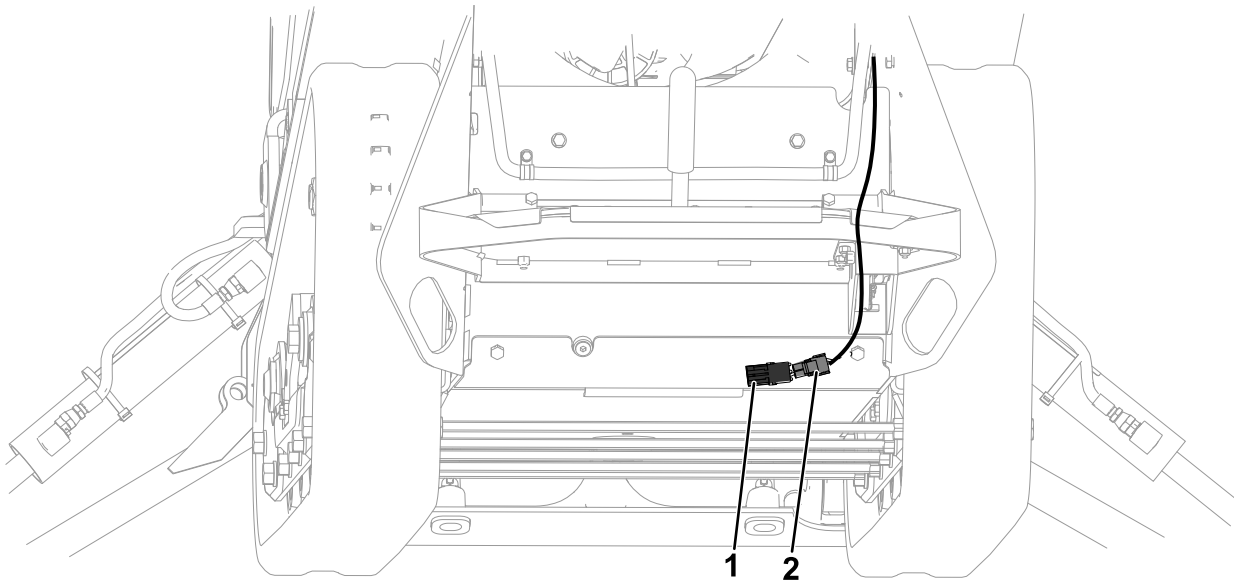

Figure 14
11. Connect the remaining 2 connectors into the main harness parking brake switch connection and the parking brake (**Figure 14**).